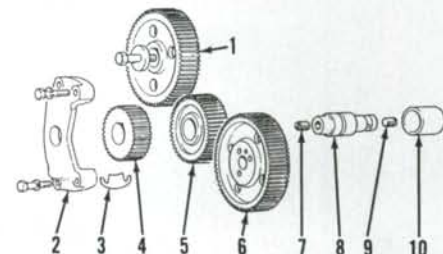

Fig. 85—View showing timing gears and related parts used on four-cylinder engines.
94. Timing gears on four-cylinder engines consist of crankshaft gear, camshaft gear, fuel injection pump gear and an idler gear (Fig. 85).
Remove idler gear support bracket (2—Fig. 85) and shims (3). Withdraw idler gear (5) from shaft (8). To remove idler shaft, remove plug from end of shaft and install a bolt and flat washer. Use a suitable slide hammer puller to remove shaft.